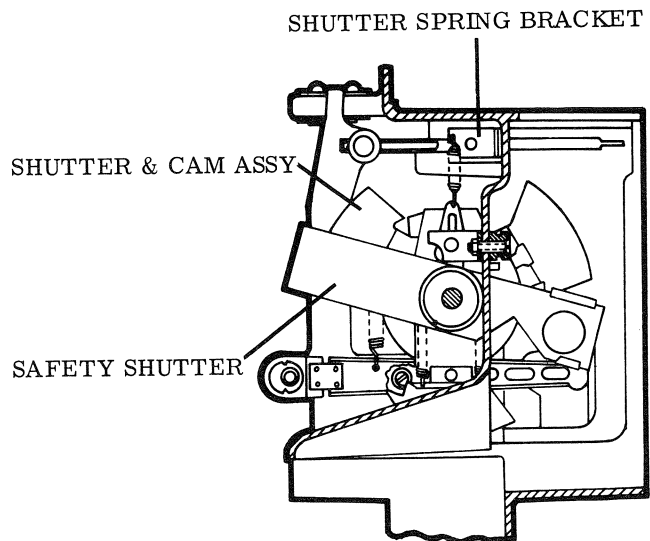

Figure 3-43. SAFETY SHUTTER LOCATION
14. Safety Shutter Location (Figure 3-43)